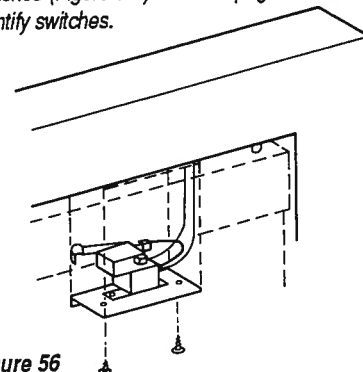

Figure 56
**Note: To test and/or replace the limit switch and the flue damper switch, the switch assembly must be detached from the appliance. The switch assembly is located in the control opening side of the GST, GCR and GPF(L) Models and on the opposite side for the GPF(R) Model. Remove the two (2) Phillips head screws from under the trim bar. The switch plate assembly can be lowered to test or replace the switches (Figure 56). Refer to pages 16 and 17 to identify switches.*
The switch is mounted on the rear of the control access door. Figure 56 illustrates the proper position of the switch for each model. Your specific models should be equipped with its own unique access door with the switch mounted in the correct position (Figure 59).